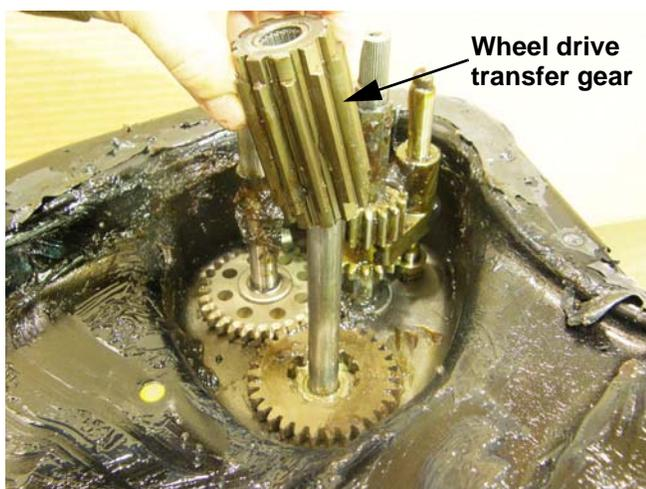

Figure 5.42
7. Below the main shaft wheel gear is a wheel drive transfer gear. Lift it off of the main shaft. See Figure 5.42.